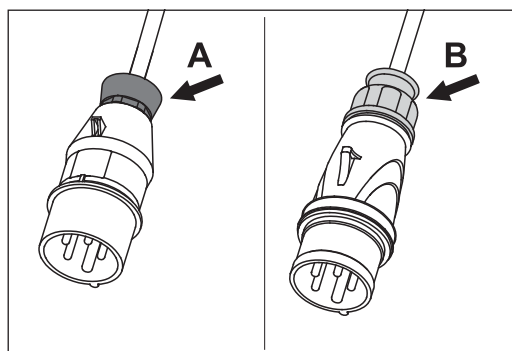

Fig. 28 Original LÄGLER® plug with red nut (A) or yellow nut (B).
- 2 Original LÄGLER® plug with red nut at the cable outlet (fig. 28, A):
Original LÄGLER® plug with yellow nut at the cable outlet (fig. 28, B):